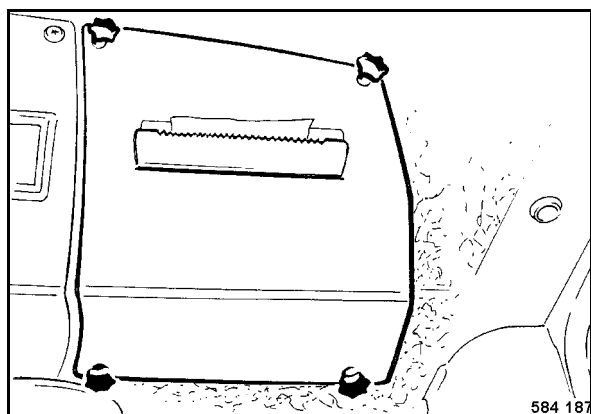

Fig. 105
- Unscrew the star handles (Fig. 105) and remove the cover.